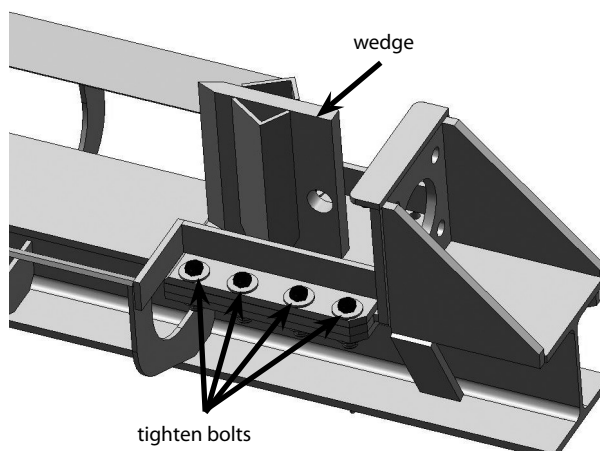

Figure 3
7. Remove foam packaging from between the splitting wedge and the beam. Tighten the eight bolts and nuts that hold the wedge onto the beam with a 10mm Allen wrench and 19mm box wrench (**SEE FIGURE 3**), ensuring the wedge is still able to move along the beam without catching.